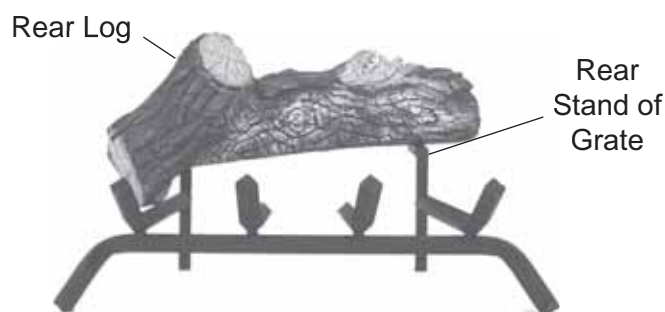

Figure 124 - Placing Rear Log #1 on Back Grate
2. Place Rear Log #1 on back of grate. Left side should fit on grate in front of rear stand. Right side goes on the rear stand of grate. *See Figure 124.*